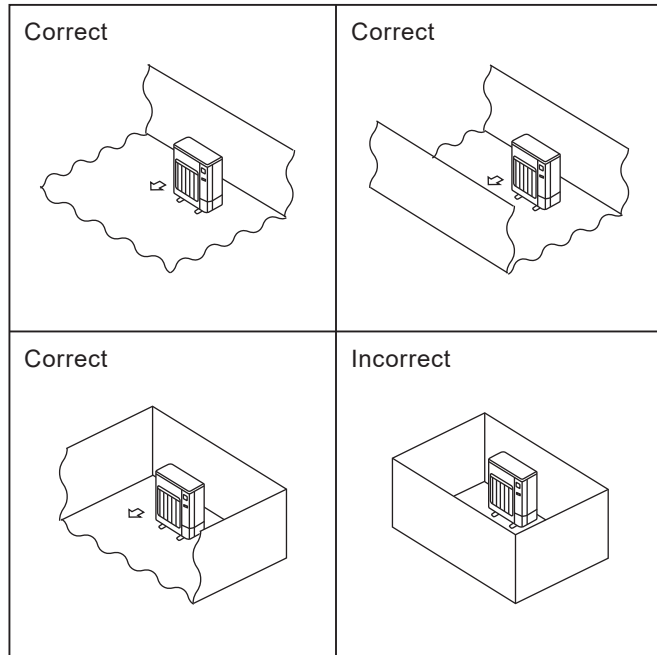

Fig. 1-1
- Install outdoor units in a place where at least one of the four sides is open, and in a sufficiently large space without depressions. (Fig. 1-1)